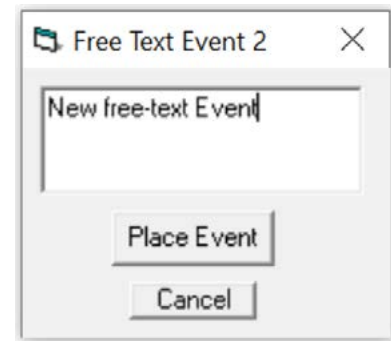
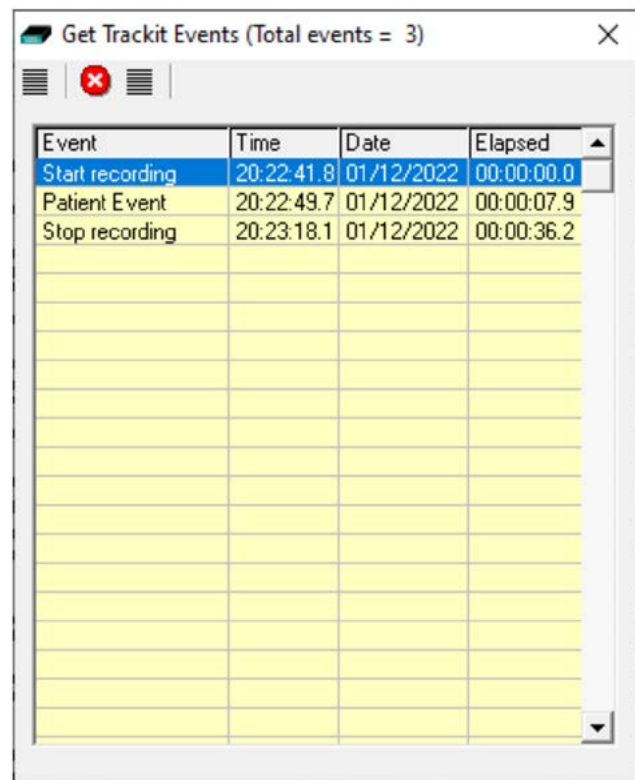

Figure 41: Free-text Event
Figure 42: Event Viewer
The Photic Control panel, shown in Figure 42, allows single, manual, sweep and complex sequences of Photic stimulation to be produced. Photic start/stop events are recorded as shown in Figure 41. By using the Trigger output from the Photic Stimulator and connecting to an Aux input (for Trackit Mk3, R40 & T4) or the a polygraphic channel input (on T4A), the actual Photic flash 'ticks' are produced in the recording as shown in Figure 41.
**NOTE:** to setup a suitable Photic trigger signal definition, for displaying in the EEG montage (as shown in Figure 41), open the Signal library as described in Section 4.2.1 and define a signal with a name "Photic", set it to type DC, units mV and Physical Signal Amplitude of +/- 1000mV/V. Set the sensitivity to non-master and 10mV/mm (as shown in Figure 43).